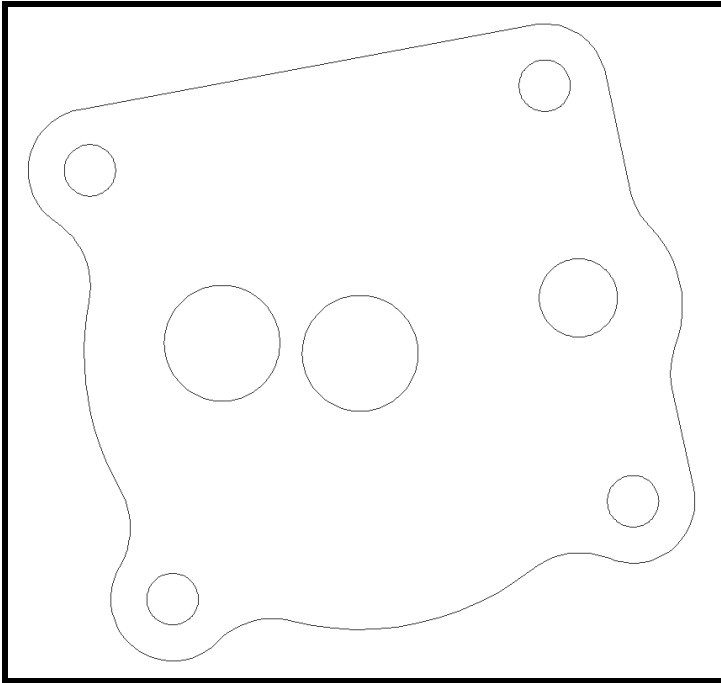
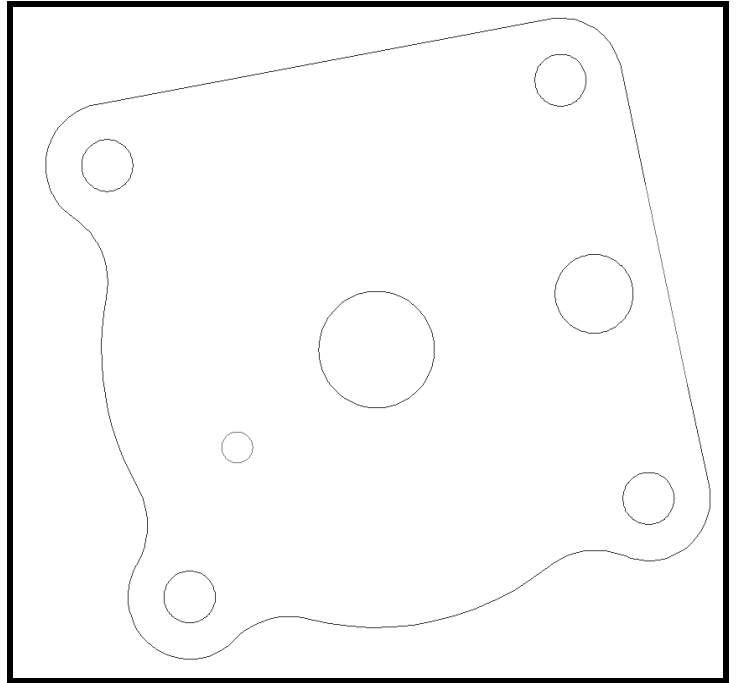
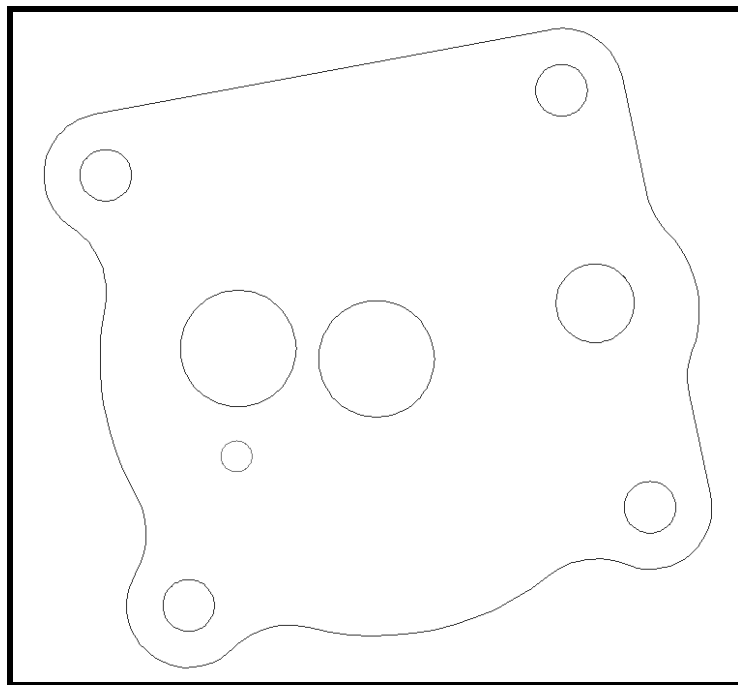

Figure 1
Figure 2
Figure 2A
5. The mounting pad on the accessory case for the **OFA** should be like the drawing in Figure 1, Figure 2, or Figure 2A. If the mounting pad is different, **DO NOT** use this adapter. Call B & C Specialty Products at (316) 283-8000. The B&C **OFA** is not compatible with 76 series engines or on accessory cases with “Dual Magneto” mounts (two magnetos in one case with a single drive).